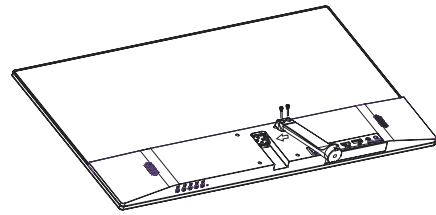

Fig.1
1. Match the holder with the screw holes as the arrow direction, and lock 2 sets 4*12 mm screws (Fig.1).